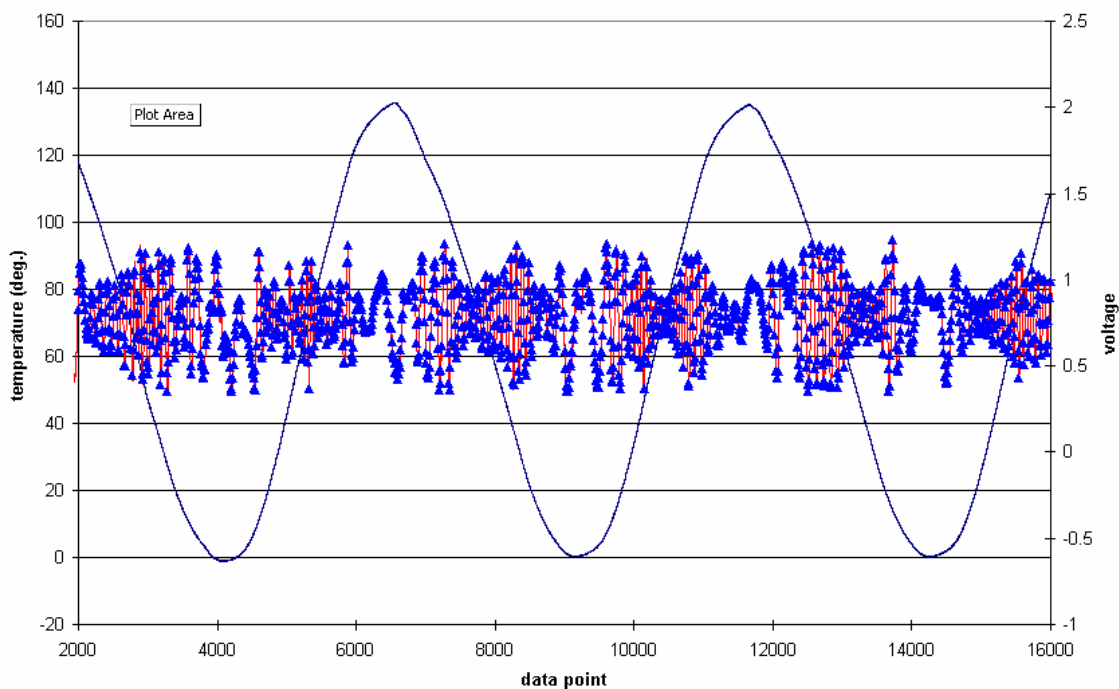

Figure 3. PKCHECK: Chart 1 (1-16000)
- **Chart 1** (Figure 3) graphs temperature and voltage vs. data points 1-16000.